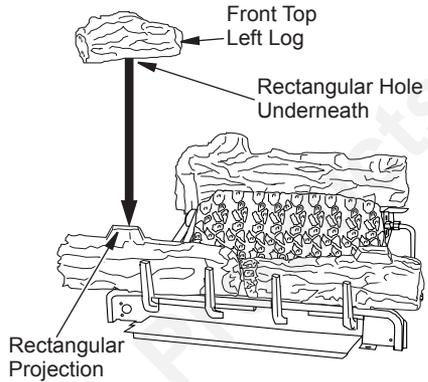

Figure 33 - Installing Top Left Front Log
5. Place top left front log onto front left log. Match the rectangular projection on top of front left log with the rectangular hole on the bottom of the top left front log. The top left front log will rest on top of the front left log (see Figure 33).